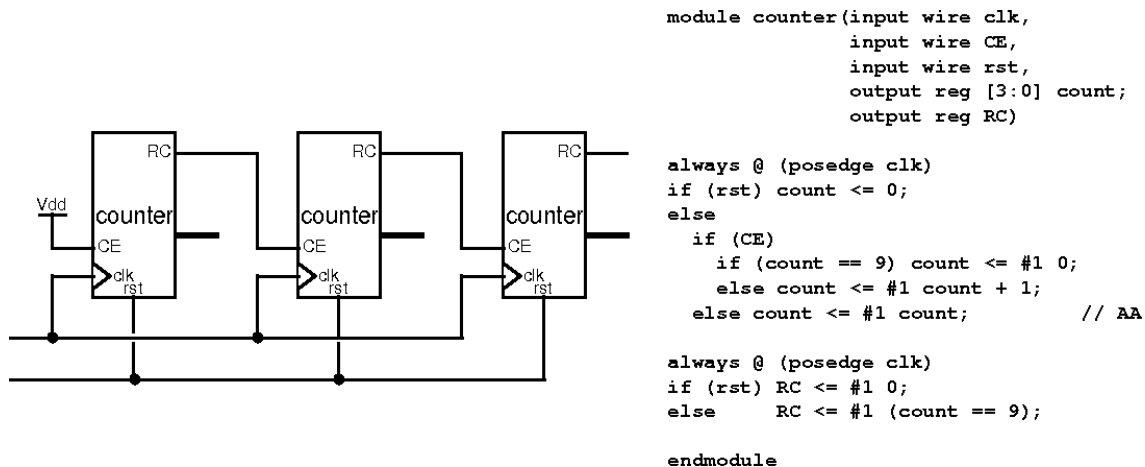

Figure 4: A *putative* modulo 1000 counter.
3. Figure 4 shows a design for a modulo 1000 counter, using a Verilog module instantiated on a schematic. *This design has not yet been debugged!*
- The 'RC' output from the 'counter' module, as written in figure 4 is *registered*, i.e. the output comes directly from a flip-flop. Identify one advantage and one disadvantage of this style of design. (4 marks)